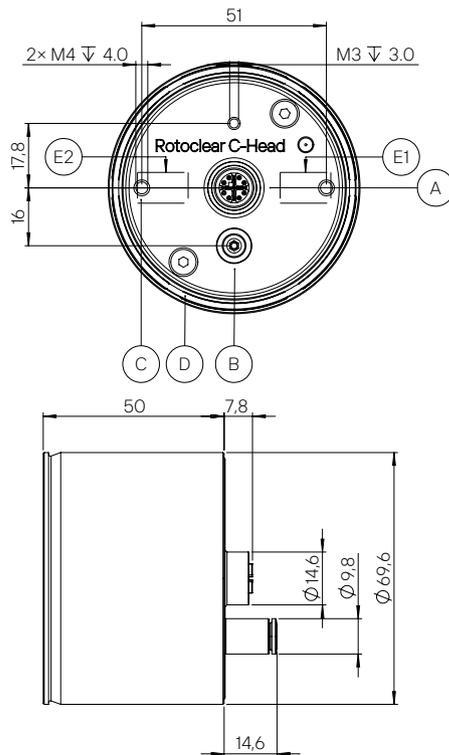

Figure 3
The screw threads are located in a line with the positions of the camera lens(es) (Fig. 3-E1, or depending on configuration Fig. 3-E2). For output in landscape format, the screw positions (Fig. 3-C) must be located along a horizontal line. For portrait format, they must be along a vertical line.
In addition to the optionally available mounting accessories (also see the sections "Flex arm mount", "Ball mount" and "Spindle mounting"), the camera head can be mounted according to individual requirements. To seal the opening in the housing wall, insert the sealing ring into the groove (Fig. 3-D) provided (enclosed).
As described above, two M4 threads (Fig. 3-C) are provided on the back of the housing as a mounting interface.
For mounting, use the two M4 threads (Fig. 3-C) on the rear side at a distance of 51 mm.
**!** The data cable connected to the interface (Fig. 3-A) and the sealing air tube (Fig. 3-B) can also be routed in the area exposed to media without additional protective tubing, provided that they are adequately protected against damage from chips or other sharp-edged parts and all plug connections have been tightened to the correct torque.
**!** Make sure that the system is disconnected from the power supply. Connect the data cable firmly with the plug to the corresponding interface (Fig. 3-A) on the rear, such that the plug closes tightly. The tightening torque for the M12 plug-in connections is 0.6 Nm. Connect the plug connector to your compressed air supply (Fig. 3-B).